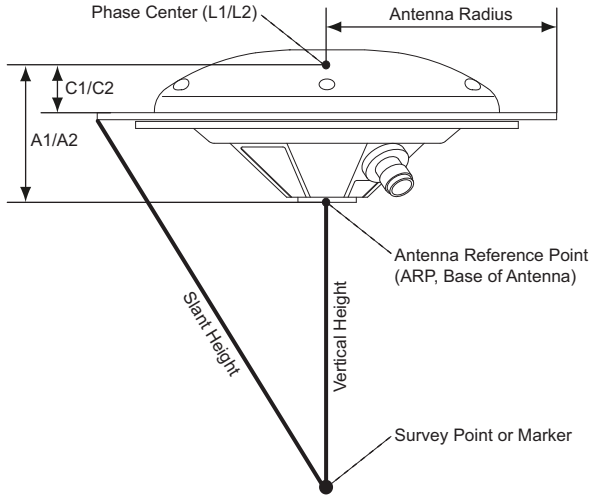

Figure 6-12. Determining Antenna Parameters
Each antenna type has unique phase center parameters obtained through factory calibration. These parameters are not viewable nor editable, but a custom antenna can be added to the Topcon Link list of antennas. You will need the measurements (calibrations) shown in Figure 6-12 to properly add a custom antenna and ensure correct coordinate computations.
1. Measure or record the antenna’s offset parameters as shown in Figure 6-12.